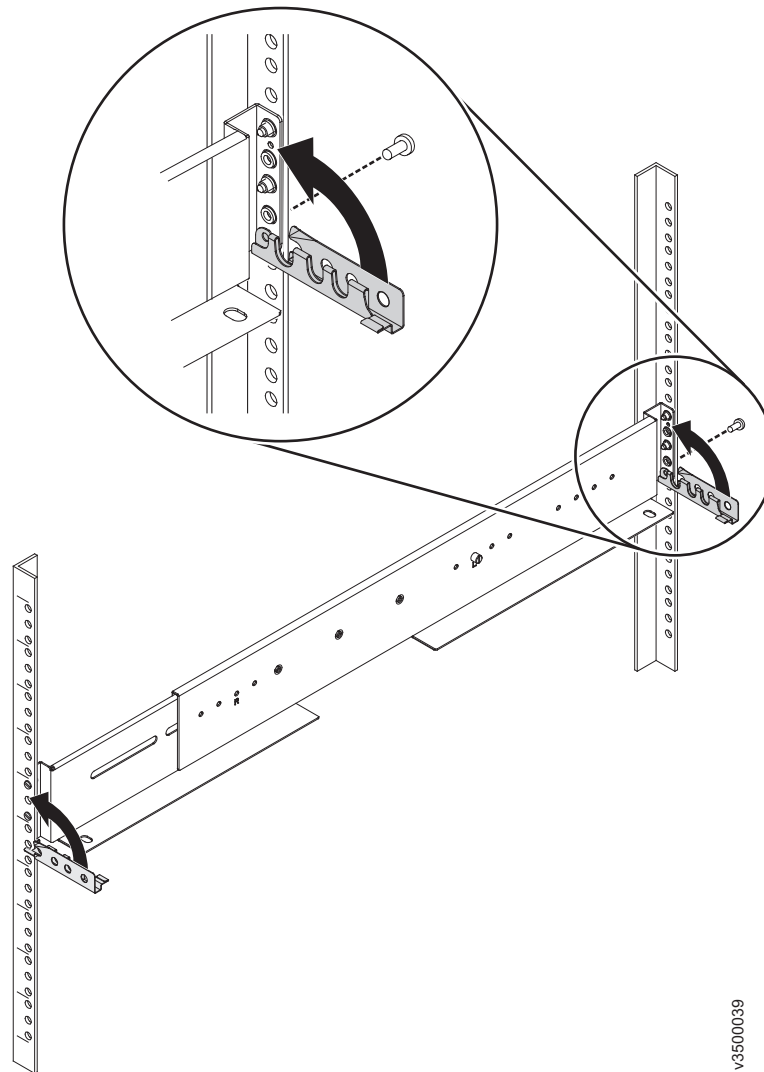

Figure 10. Closing hinge brackets and installing rear screw
9. Close the rear hinge bracket to secure the rail to the rack cabinet flange. (See Figure 10.)
11. Close the front hinge bracket to secure the rail to the rack cabinet flange. (See Figure 10.)
12. Secure the rear of the rail to the rear rack flange with an M5 screw. (See Figure 10.)